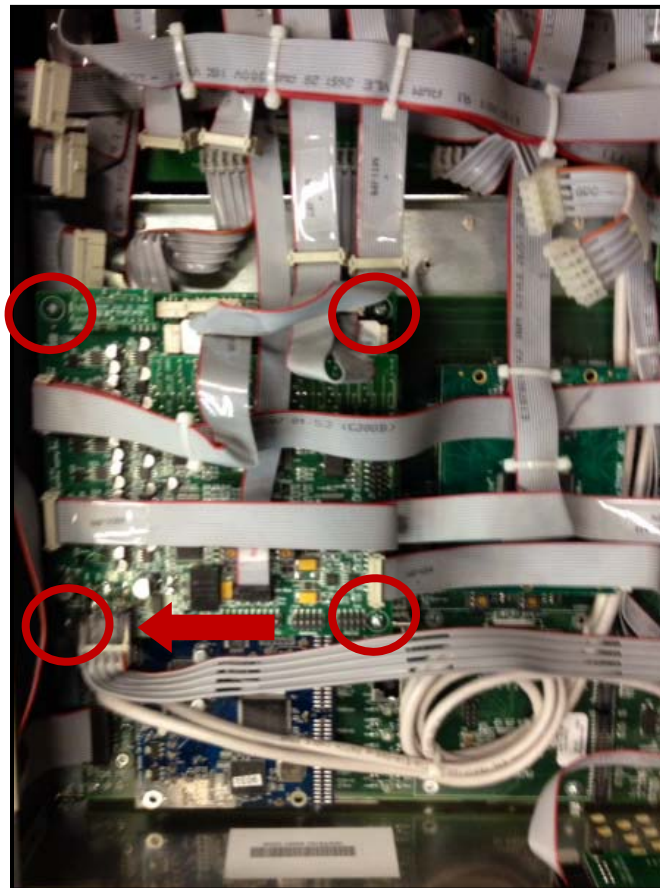

Figure 8
1. Remove the IEDTN08AIO adjacent to the CobraNet module by unplugging the power cable (indicated with a red arrow in **Figure 8**) and removing the four screws at each corner (indicated with a red circles in **Figure 8**).